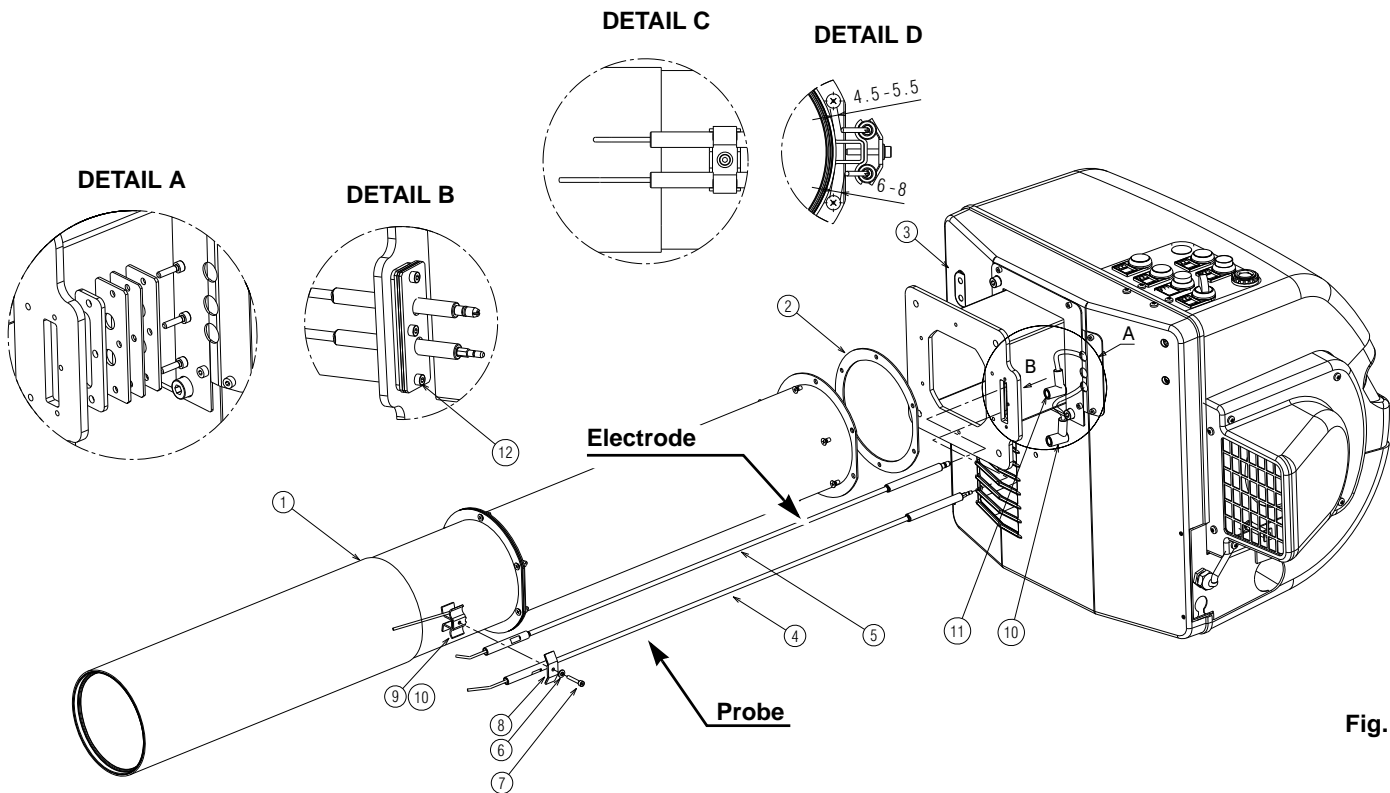

Fig. 13
- Assemble the combustion head 1) to the burner 3) interposing the gasket 2) Fig. 13.